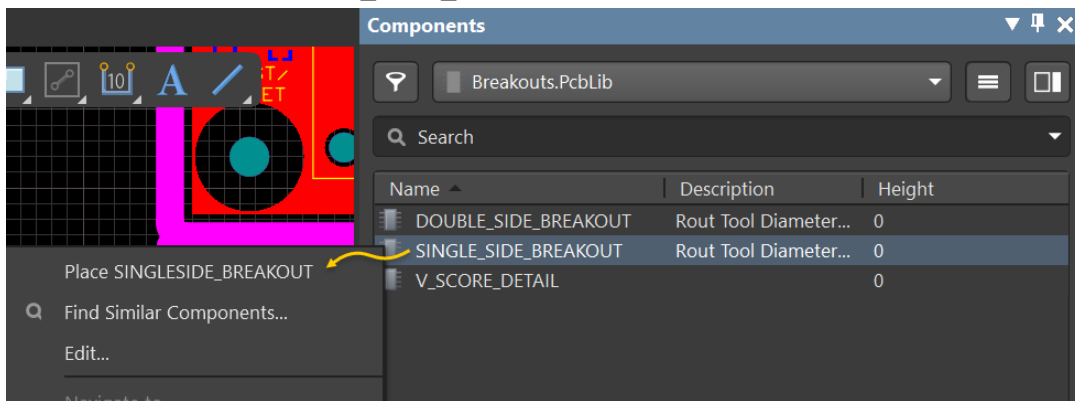

Figure 22. Placing the breakout footprint
41. Right-click on the `SINGLE_SIDE_BREAKOUT` footprint and select **Place** as shown in Figure 22.